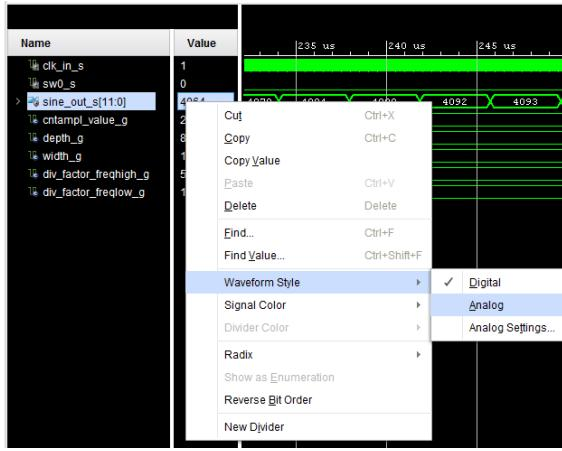

Figure 6.4: Waveform Style -> Analog option
- Right-click on it and choose **Waveform Style -> Analog** , see Figure 6.4.